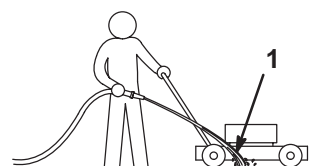

Figure 9
4. Hold the running water hose at handle level and direct the water flow on the ground just in front of the **rear right** wheel (Fig. 9).